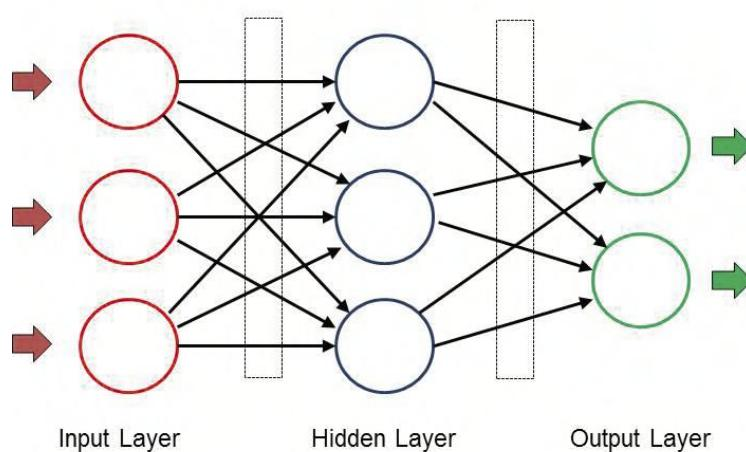

Figure 1: Structure of a neural network.
A neural network (NN) consists of several layers, each of which has several nodes. In **Figure 1** the nodes of a layer are arranged vertically. Theoretically, there can be any
process, also called backpropagation. Starting in the last layer, the weights are adjusted in small steps to minimize the loss. After many (often millions of times) of training rounds with different input data, all weights have the values appropriate to the task and NN can now analyze new data unfamiliar to it. A particularly suitable architecture for image and audio processing is the *Convolutional Neural Network*, which is also supported by Maixduino. In such a CNN, the neurons (at least in some of the layers) are arranged two-dimensionally, which fits to two-dimensional input data such as an image. Compared to the network indicated in Figure 1, where the activity of a neuron depends on all neurons of the previous layer (via different weighting factors), the dependency is simplified and locally limited in the case of CNN. Here, the activity of a neuron depends only on the values of (for example) 3 x 3 neurons, which are located in the layer before it — the weighting factors are the same. With such a network, small-scale structures such as lines, curves, points and other patterns can be detected particularly well. In the subsequent layers,